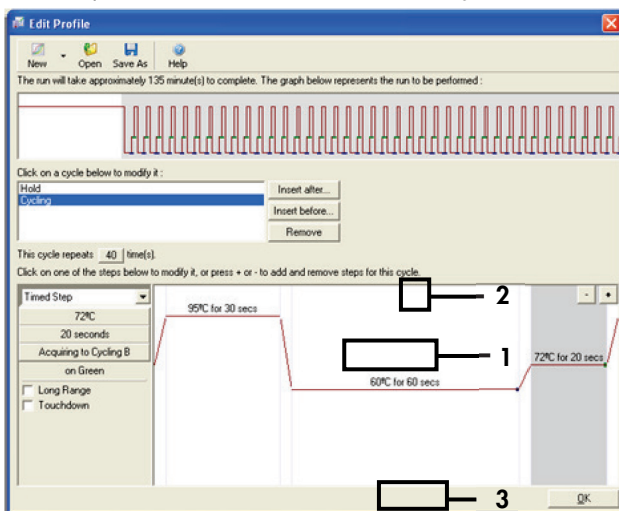

Figure 28. Removal of the extension step. 1 = Third step; 2 = Delete; 3 = "OK."
11. Highlight the third step and click - to delete. Click **OK** (Figure 28).